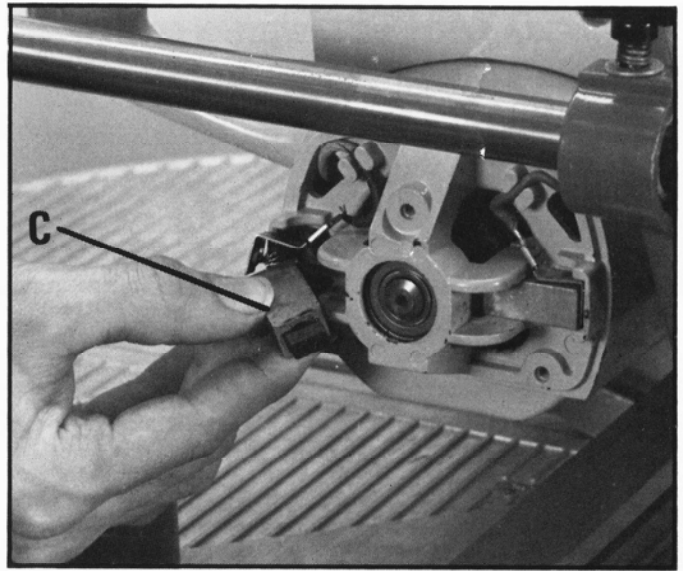

Fig. 78
4. Pull out one of the brush holders (C) Fig. 78, and remove brush holder (C) from brush.